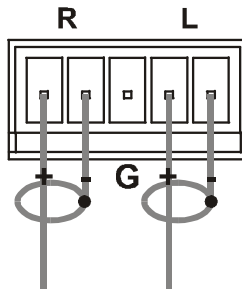

Figure 4: Connecting the Unbalanced Stereo Audio Input
- An unbalanced audio input, see Figure 4